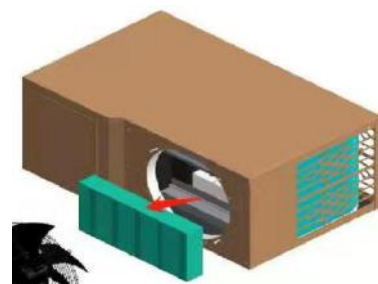

Figure 7
2. Take out the old wet film pad as shown in Figure 7 and put in the new pad. Note that the direction and placement of the pad must be the same as the original one, the wet film should be flat and without bending and deformation, otherwise it will directly affect the moisture absorption effect.